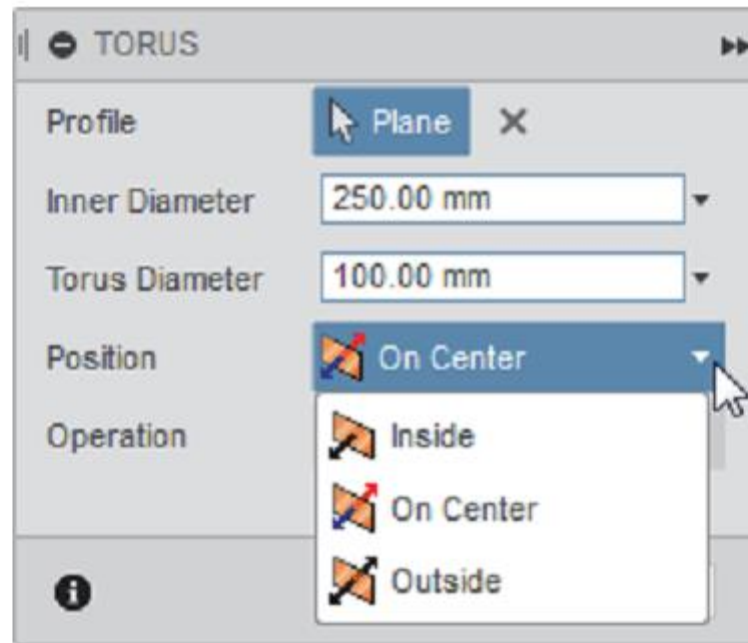

Figure 2–13
9. In the TORUS palette, expand the Position drop-down list, as shown in Figure 2–13. The Position determines where the *Torus Diameter* is in relation to the *Inner Diameter*.